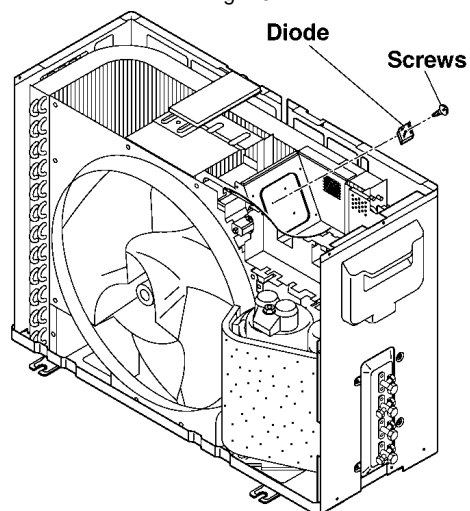

Fig. 27
8. Remove the diode. (One screws) (Fig.27)